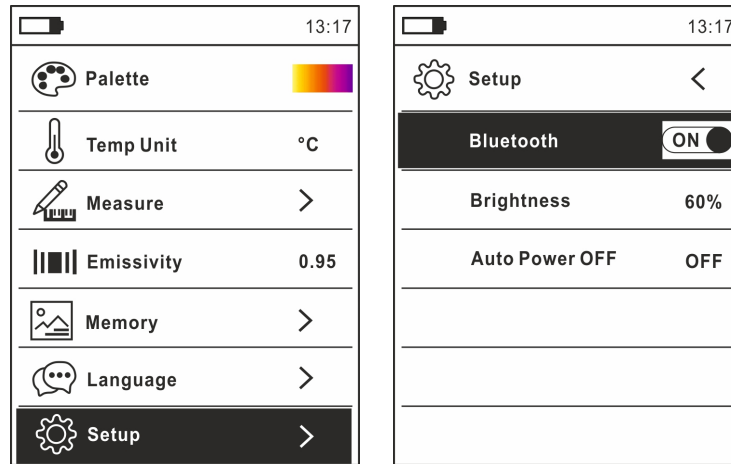

Fig. 19: Activation of Bluetooth connection
1. Press key , select menu “Settings” and activate the Bluetooth connection on the instrument (see § 5.2) as shown in Fig. 19